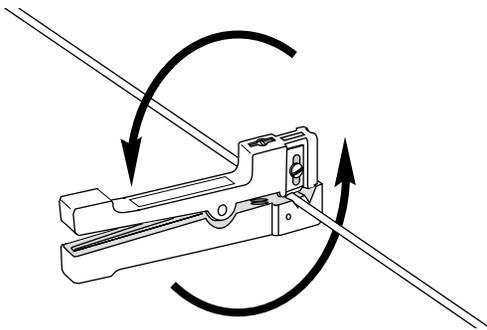

Figure 8
- Use your other hand to rotate the tool around the cable one to score it (Figure 8). Remove the tool from the cable.